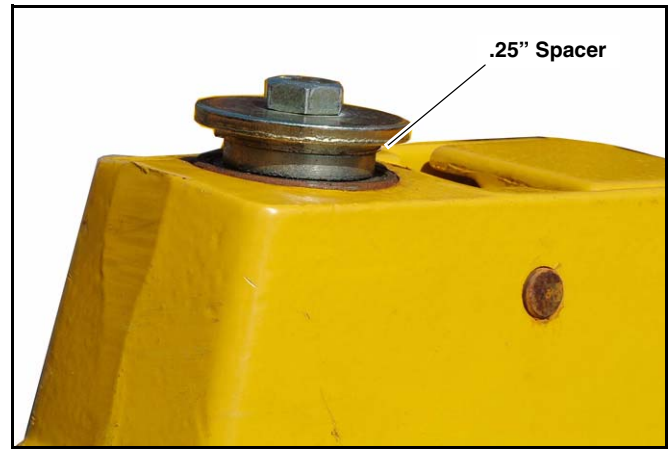

Fig. 3-8
- If one side of the deck is more than .25" higher than the other side, lower the high side of the deck by transferring the .25" gauge wheel spacer from under the gauge wheel fork bearing to the top side. (Fig. 3-8 and 3-11)